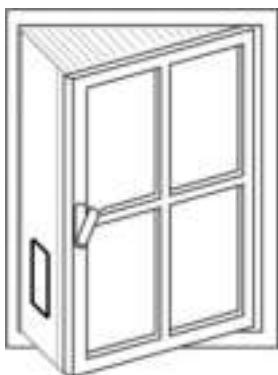

Fig. 5 Installation of window panel 25
- Connect the window panel adapter to the window panel (see Fig. 5 / 6).
- For the window type Fig. 5, please note that the Hot air stop can be purchased from our service department or via our homepage to seal the top and bottom surfaces